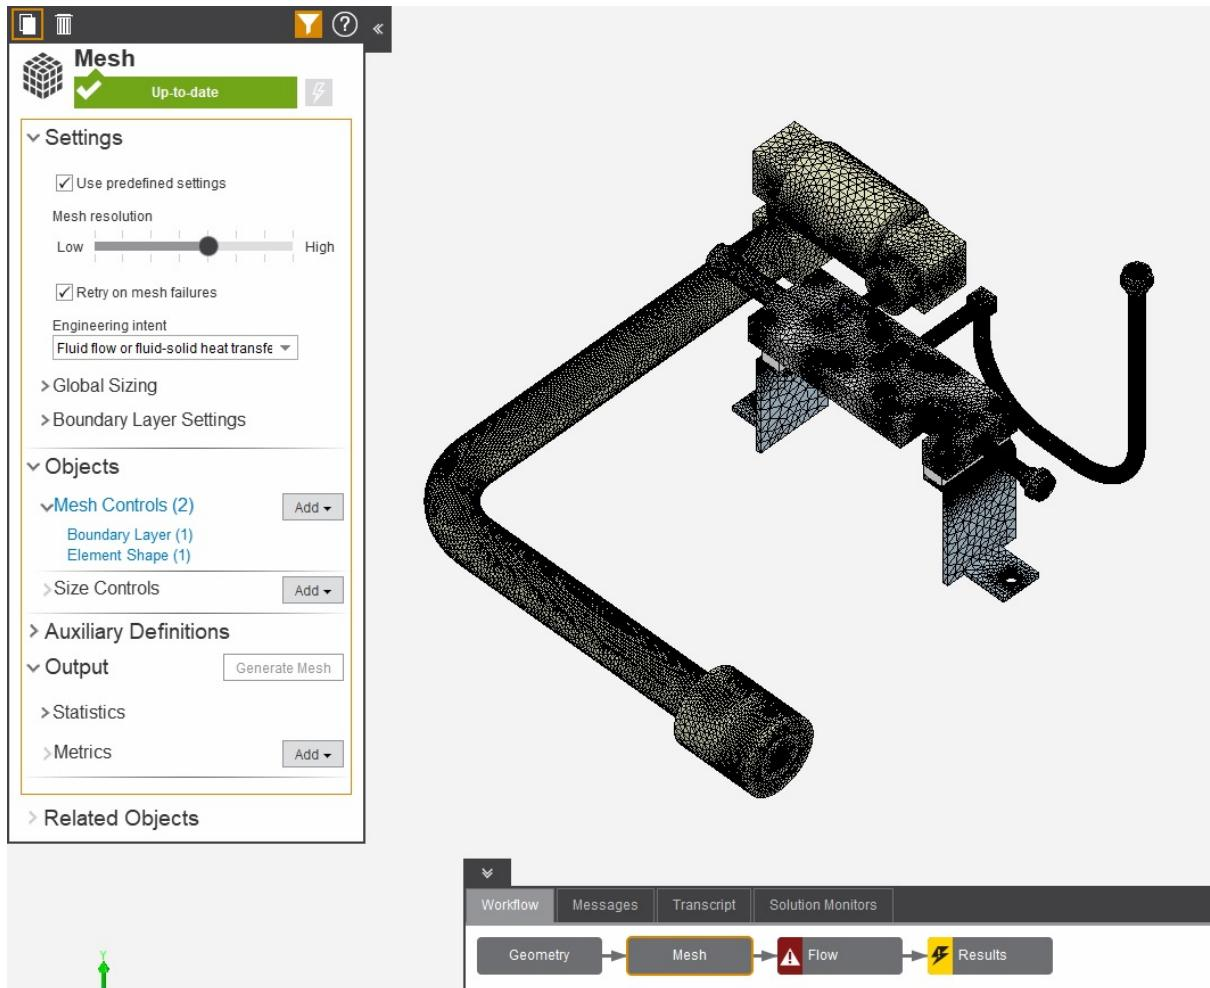

Figure 3.6:
5. Once the Mesh has been generated as shown in Fig. 3.6 it is recommended to check the quality and skewness of the mesh.